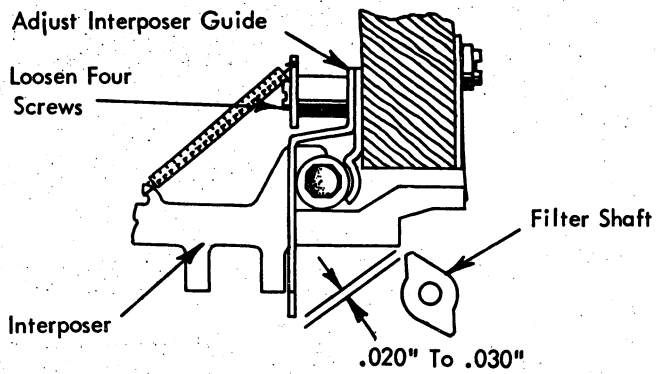

FIGURE 3. Rear Interposer Guide Comb
2. **Rear Interposer Guide Comb** - Adjust the interposer guide comb up or down so there is .020" to .030" clearance between the bottom edge of the interposers and a vane of the filter shaft (Fig. 3).